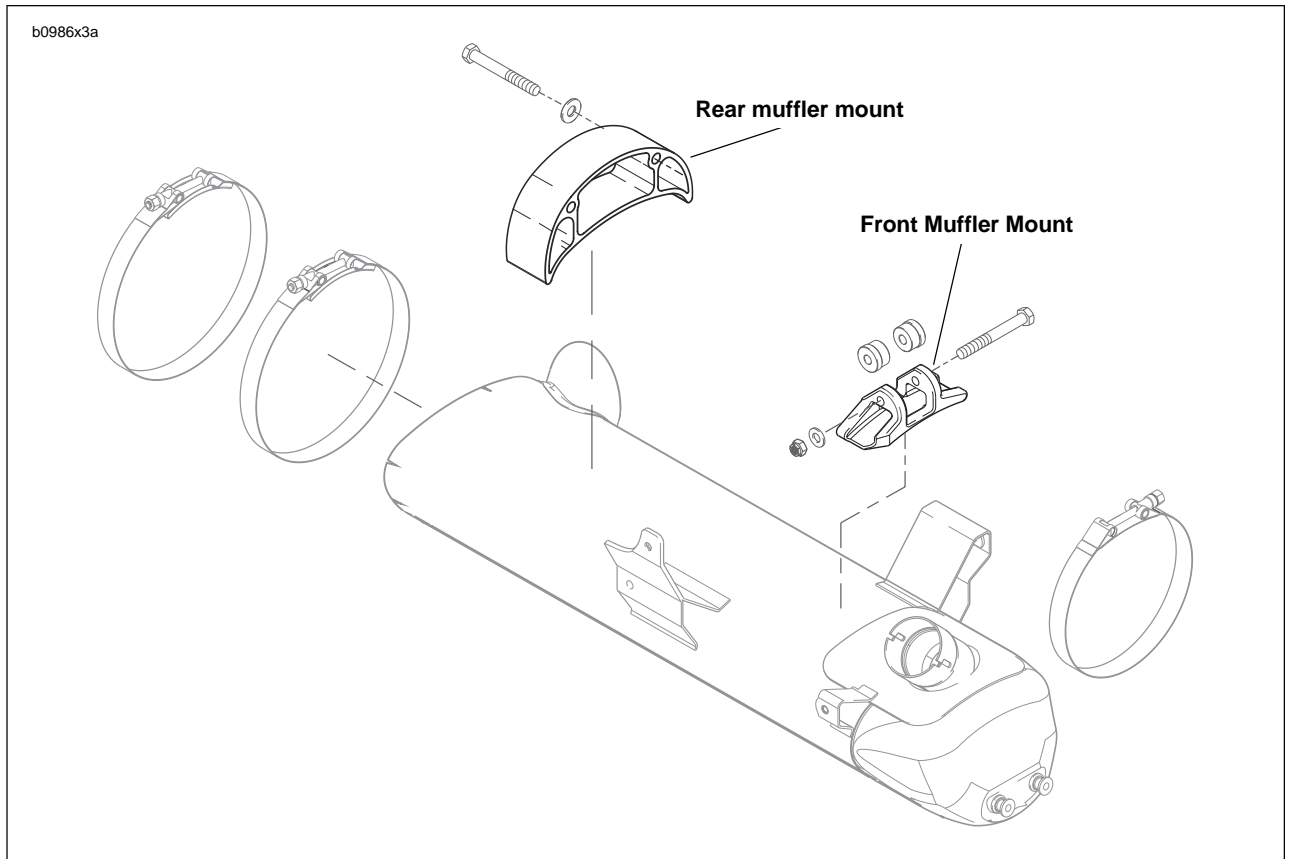

Figure 3-47. Muffler Mounting System
18. See Figure 3-47. Install rear muffler bracket and torque to 32-36 ft-lbs (43.4-48.8 Nm).